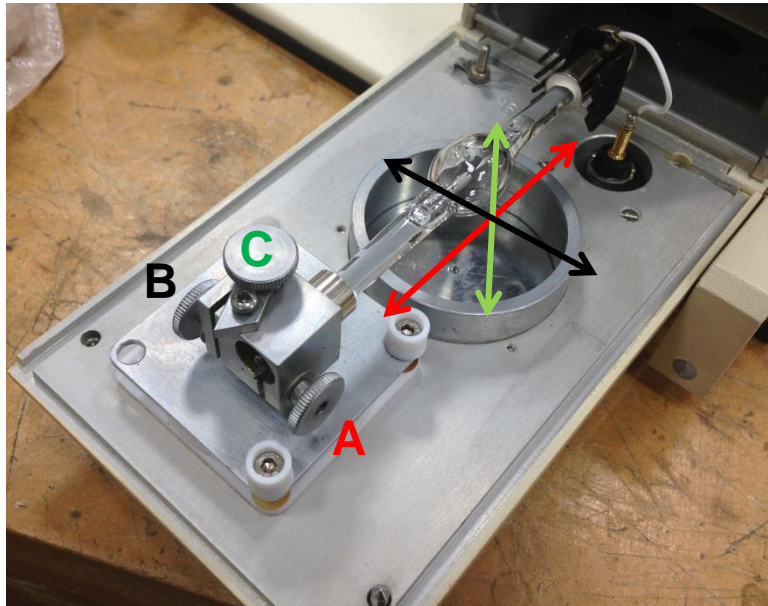

Figure 5.3 - Location of interior lamp adjustment screws
6. Loosen the finger tight screw (A) shown in Figure 5.3 to release the lamp from the anode mounting block.